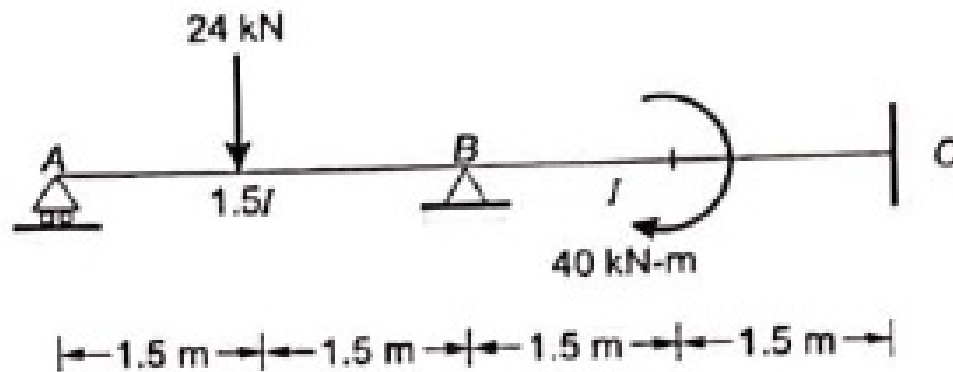

Fig 5
- (a) Calculate the distribution factor of continuous beam shown in Fig 5. Portion AB has second moment of area $1.5 I$ and BC is I . 03
- (c) Evaluate the final end moments and reactions at supports using the Moment Distribution method for the Fig 5 (OR Q.4a). 07